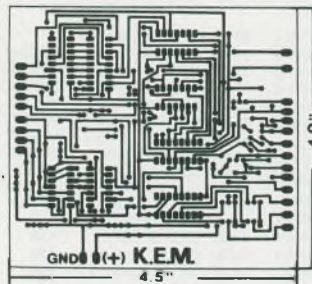

Fig. 1 Sample artwork (Solder side)
- 1) Using black ink, tapes, letterings, draw your artwork on white paper or clear drawing film, taking care to letter clearly. Put the dimensions on the artwork in at least two places as shown in Fig. 1.
**SAMPLE ESTIMATE FOR FIG. 1**